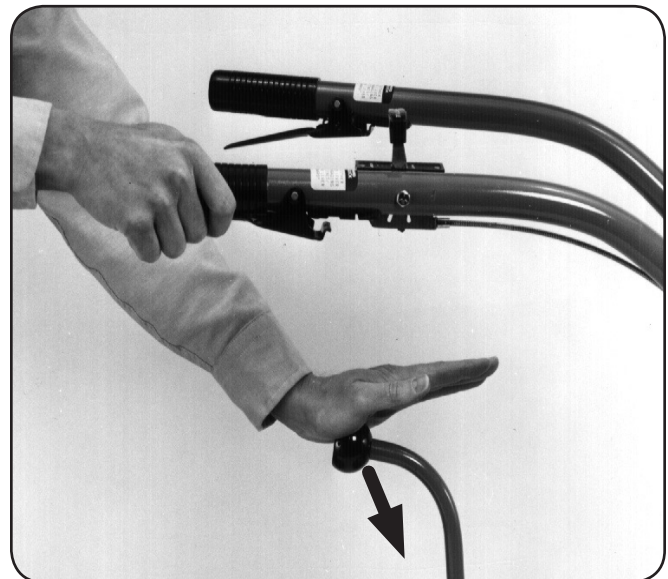

Figure 5-2
5. To move the tiller forward and engage the tines, squeeze and hold either Forward Interlock Lever against the handlebar grip (See Figure 5-2), then move the Wheels/Tines/PTO Drive Lever down to FORWARD position.